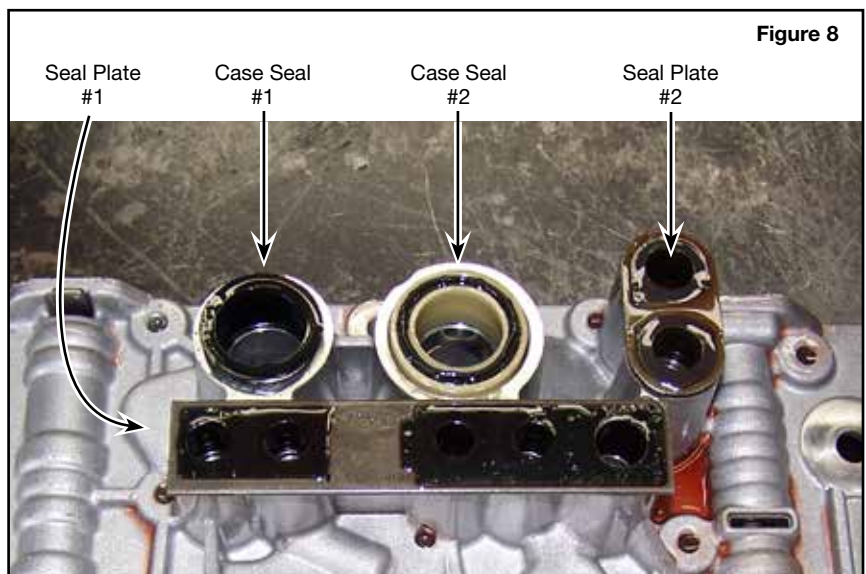

Figure 8
- Remove valve body-to-case seals (**Figure 8**).